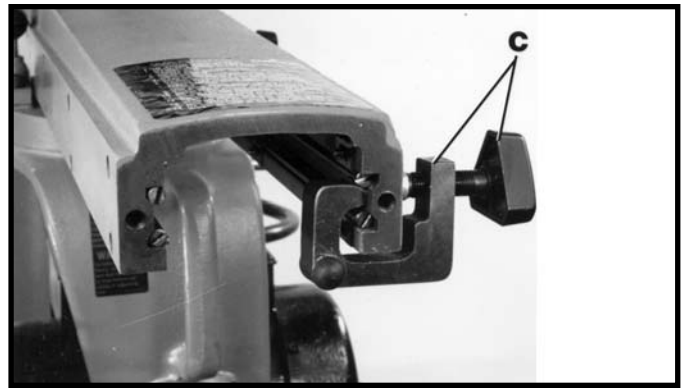

Fig. 10
3. Assemble cross-cut stop (C) to the track-arm as shown in Fig. 10.